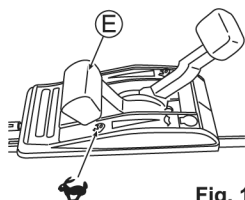

Fig. 15
2. Set Throttle lever (E) to "🐢" to start mowing. (See Fig. 15)